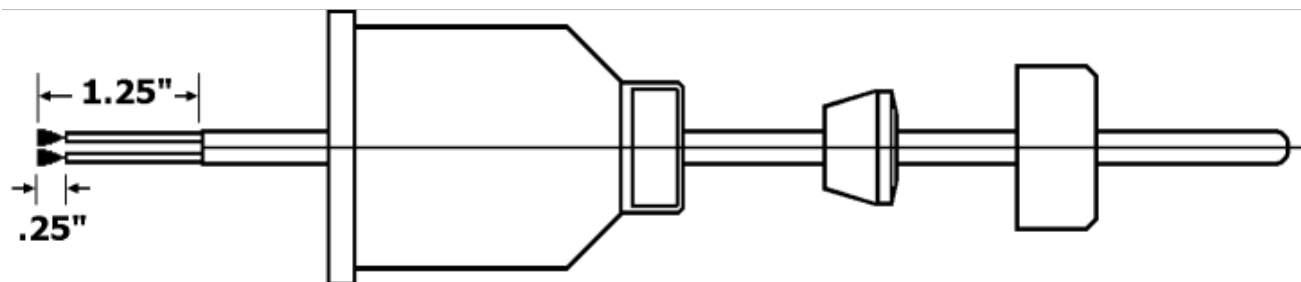

FIGURE 2
- 4). Feed electrical cable through gland nut, grommet and switch cover as shown in figure 2.